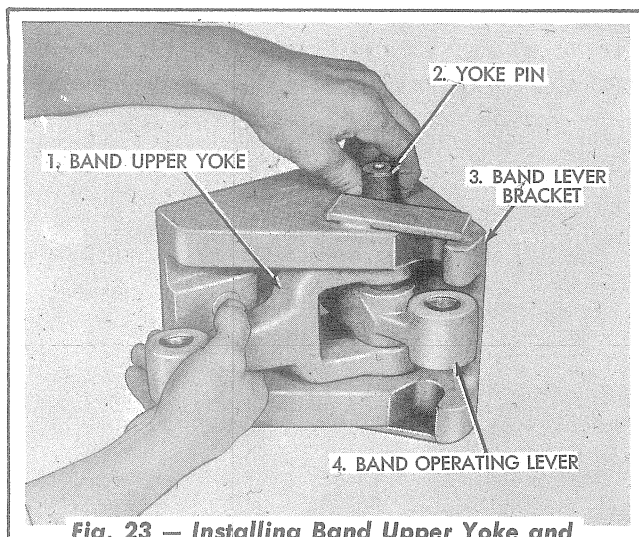

Fig. 23 — Installing Band Upper Yoke and Operating Lever in Band Lever Bracket
4. Refer to Fig. 23 and place the band upper yoke and the band operating lever in position in the band lever bracket as shown. Insert the yoke pin.